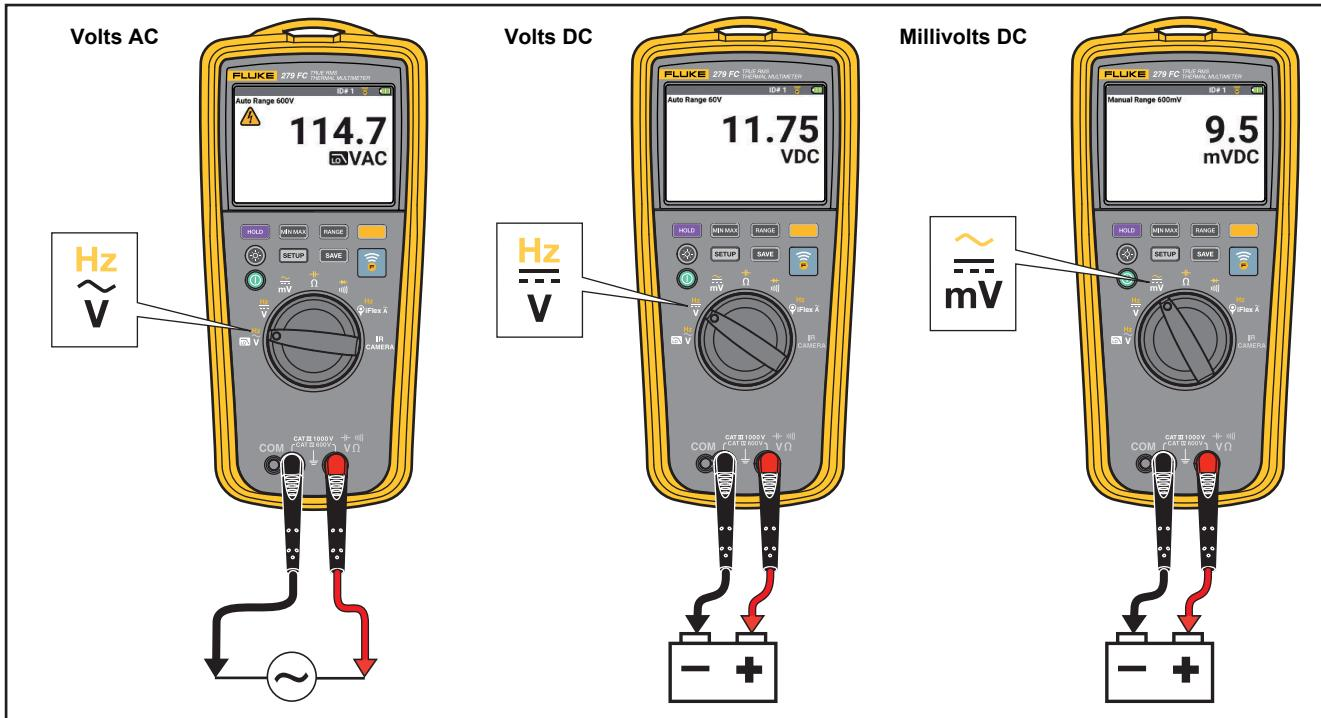

Figure 4. AC and DC Voltage Measurements
- AC and DC Voltage Measurements. See Figure 4.
1. Turn the rotary dial to $\frac{\text{mV}}{\text{mV}}$. See Figure 4.